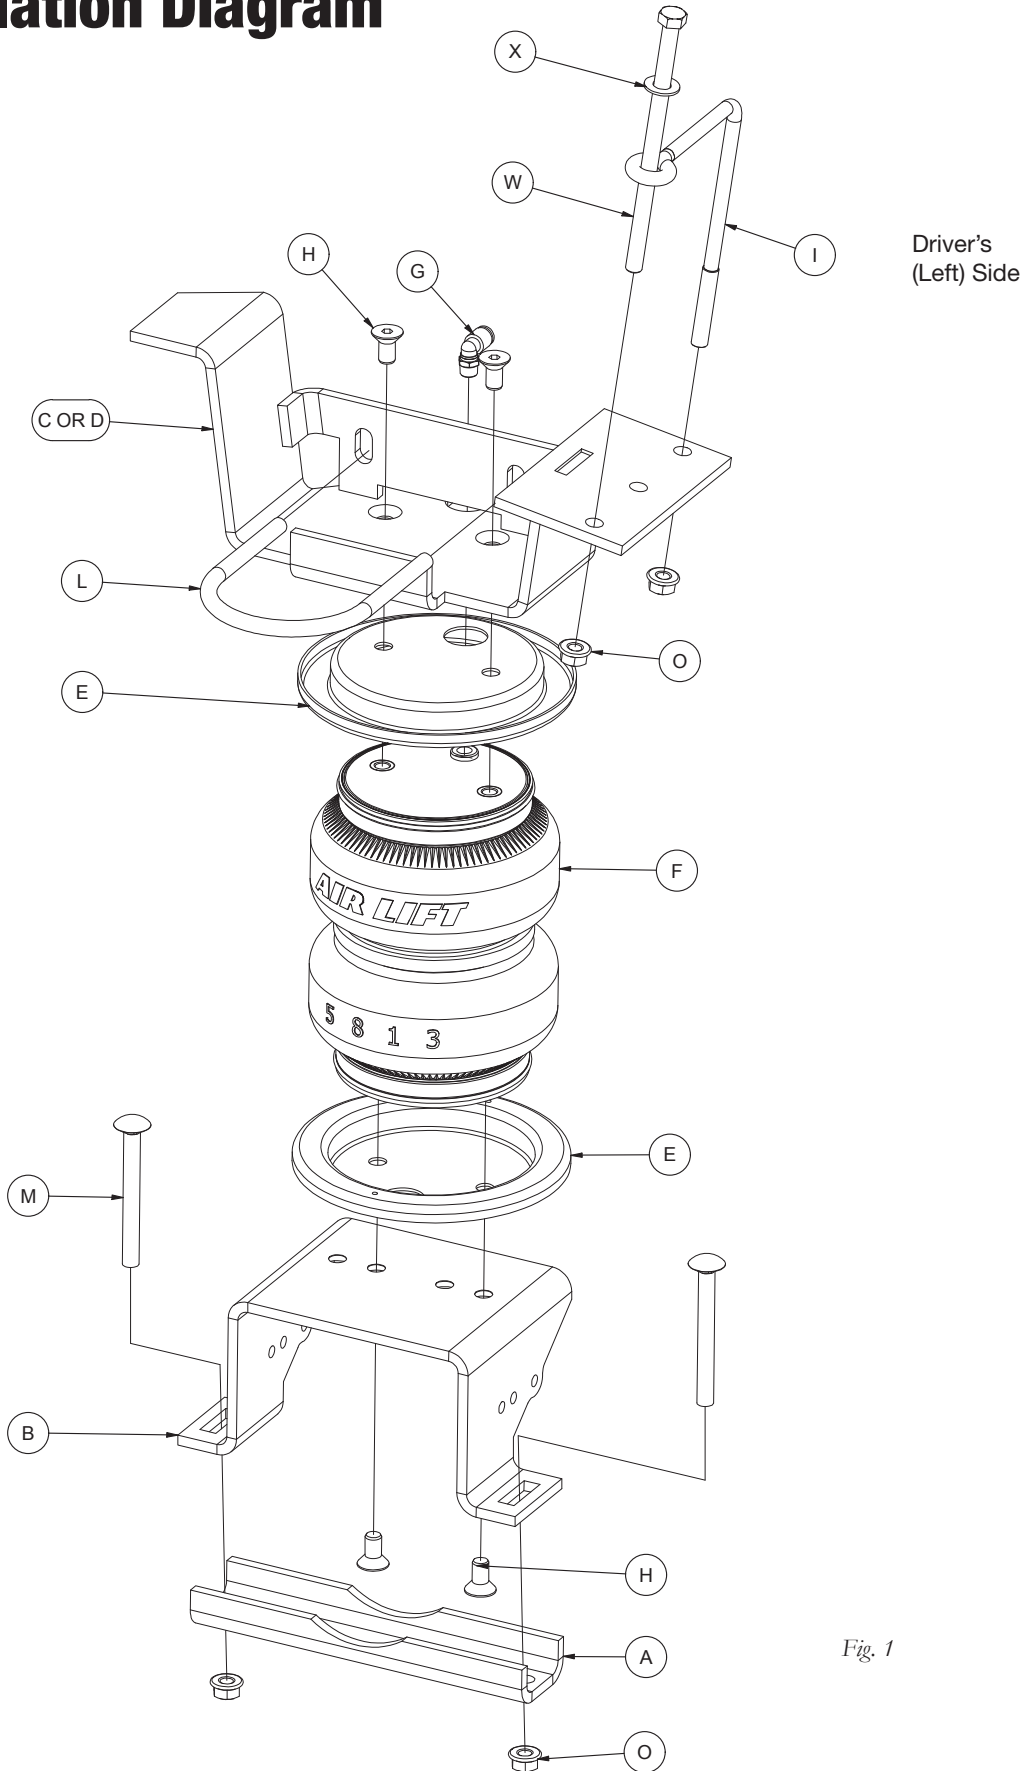
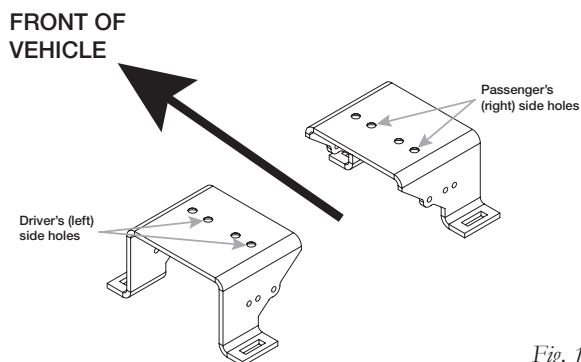
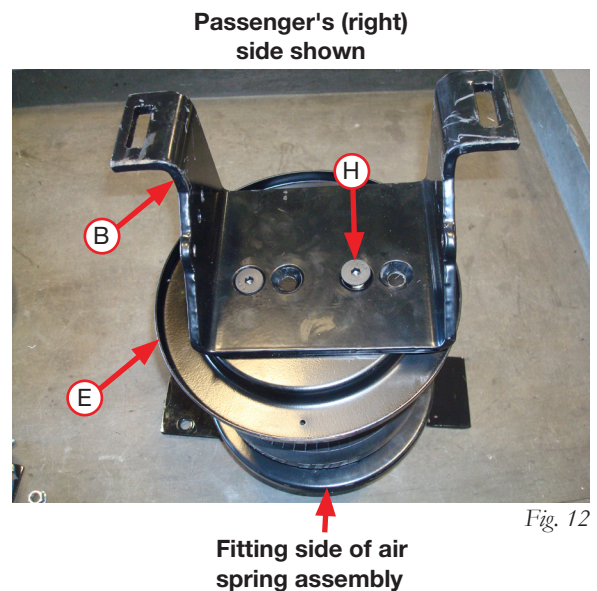

Fig. 1
Fig. 11
Fig. 12
* These parts are not shown in the Installation Diagram (Fig.1).
3. To determine which holes in the lower bracket (B) to use for installing on the air spring assemblies, set them next to each other with the angled sections pointing toward each other (Fig. 1, Fig. 11 & Fig. 12). Use the first and the third holes on each bracket to attach to the air springs. Set a roll plate (E) onto the air spring assembly and attach the lower bracket onto the air spring with two 3/8" flat head screws (H) and torque to no more than 20 lb.-ft (27Nm).
THE ANGLED SIDE OF THE LOWER BRACKET WILL BE ON THE FITTING SIDE OF THE AIR SPRING (FIGS. 1, 11 & 12).